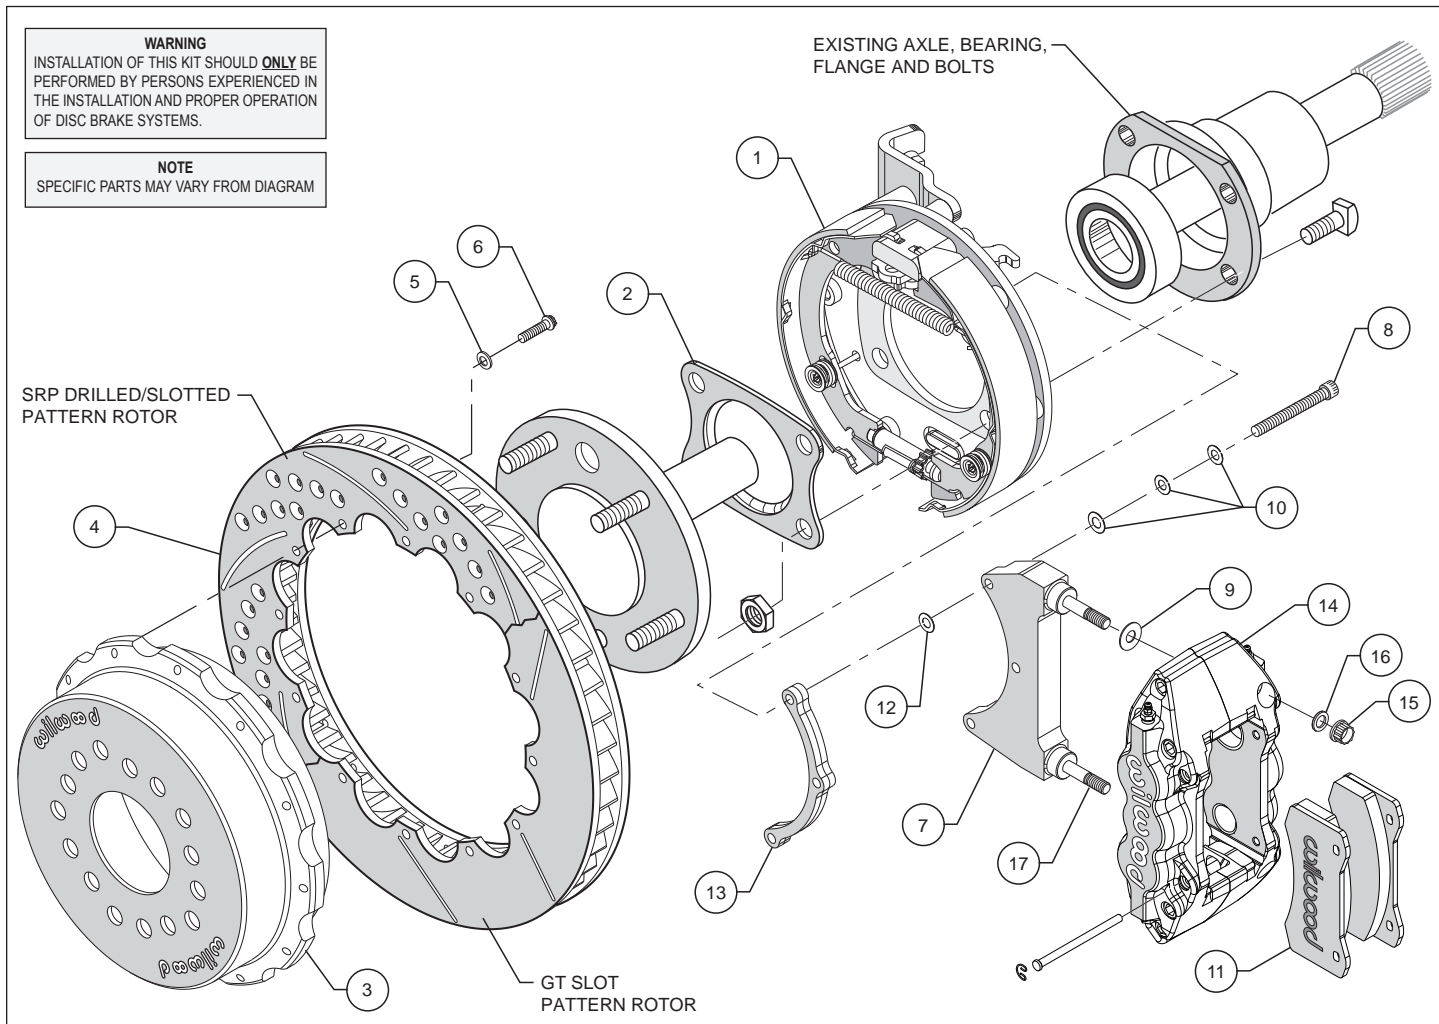

Figure 1. Typical Installation Configuration
- Full Circle Retainers** require the utilization of a qualified machine shop to press off the axle bearing and OEM retainer. Then have machine shop install new retainer (2), supplied with bracket kit with lip facing toward bearing, reference Figures 1, 4 and 5 (we suggest that you install a new bearing at this time, not supplied with kit).
- "U" Retainers** require the removal of the OEM retainer by cutting or grinding a notch in the retainer to facilitate removal. Once OEM retainer is removed, install new retainer (2) supplied with bracket kit with the "U" opening facing up and the lip facing toward bearing, reference Figures 1, 4 and 5.
•Align the correct hole pattern in the hat (3) with the stud pattern on the axle flange. **NOTE:** Some OEM and aftermarket axles come with stud sizes larger than 0.50" diameter. Verify stud size and have a qualified machine shop drill the hats to the correct size, if necessary. Slide the hat/rotor assembly (3 and 4) over the wheel studs covering the bracket kit assembly (1) and against the axle flange face. Check to be sure the hat seats squarely against the hub. Install three lug nuts (finger tighten) to keep the rotor/hat assembly in place while continuing with the installation.
•**NOTE:** Please reference the caution statement at the beginning of the assembly instructions. The caliper mounting bracket assembly (7) should be installed first with clean, dry threads on the mounting bolts (8). Install the bracket from the rear side of the bracket kit assembly (1) by sliding bolt (8) through three flat washers (10), bracket (7), shim washer (12) and finally through the spacer (13), see Figure 1. **NOTE:** End of bolt should not exceed inside face of insert. The bracket must tighten squarely against the back side of the bracket kit assembly (1). Inspect for interference from casting irregularities, machining ridges, burrs, etc. Use one thin shim (12) between the bracket (7) and spacer (13) during initial trial fitting.
•Lubricate caliper mounting studs and nuts with lightweight oil. Install one shim (9) over each pre-installed stud (17) on the radial mount bracket (7). Slide the caliper (14) in place over the studs and rotor, then install the washer (16) and lock nut (15) to hold the caliper in place. The caliper bleed screws should be pointing up. Snug the lock nuts (15) and check that the rotor (4) is centered in the caliper (14). Add or subtract .015" shims (12) as necessary between the caliper mounting bracket (7) and the spacer (13) to center the caliper (9).
•Remove the two caliper pad retaining pins from the caliper (14) by popping out the pin retaining clips and sliding out the pins. Slide the brake pads (11) into place. They should install easily without interference. Check that the outside radius of the brake pad is flush with the outside diameter of the rotor face. Add or subtract shims (9) between the caliper (14) and mount bracket (7) to gain the proper alignment. Reinstall the pad retainer pins and secure using the pin retaining clips.
•Adjust the parking brake shoes outward (using a drum shoe adjustment tool available at your local auto parts store) while spinning the hat (3) until a slight drag is felt against the hat/drum. Remove the lug nuts that were holding the hat/rotor in place. Install the wheel and lug nuts. Check to see that the wheel rotates freely without interference.
•Once all clearances have been checked, remove the wheel, caliper, hat/rotor from the bracket kit assembly (1). Secure the caliper mounting bracket (7) to the bracket kit assembly (1) using red *Loctite*® 271. Torque bolts (8) to 180 in-lb. Reinstall the hat/rotor assembly and again use lug nuts to hold it in place. Reinstall the caliper, torque the caliper nuts (15) to 30-35 ft-lb.
•**NOTE:** Clevis and cable kits which attach to the parking brake assembly are not included in the Wilwood parking brake kit. Wilwood offers a generic style parking brake cable kit, P/N 330-9371 for this application which can be ordered separately from your local Wilwood dealer or by calling Wilwood customer service at (805) 388-1188.